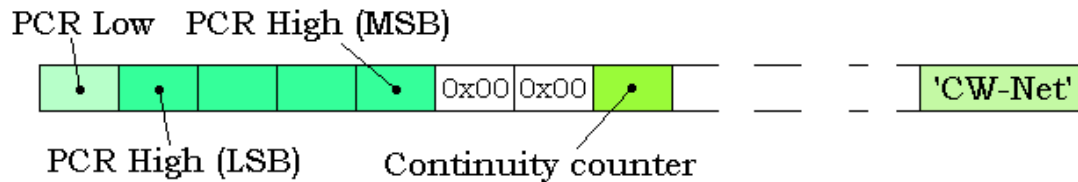

Figure 8. CW frame
- In case of CW-Net format the UDP header is followed by n TS data bytes depending on the value of *CWNetSize*. *CWNetSize* must be between 128 and 1440. The UDP payload is closed by a 32 byte *CW frame*, which contains the time stamp of the 125 MHz system clock (*PCR*), the continuity counter and the 'CW-Net' text (figure 8.). *PCR* is encoding timing information as 32 bits of the 125 MHz system clock frequency divided by 5 plus 3 bits for the remainder. *PCR Low* is an 8 bit field and counts from 0 to 4. *PCR High* is a 32 bit field.